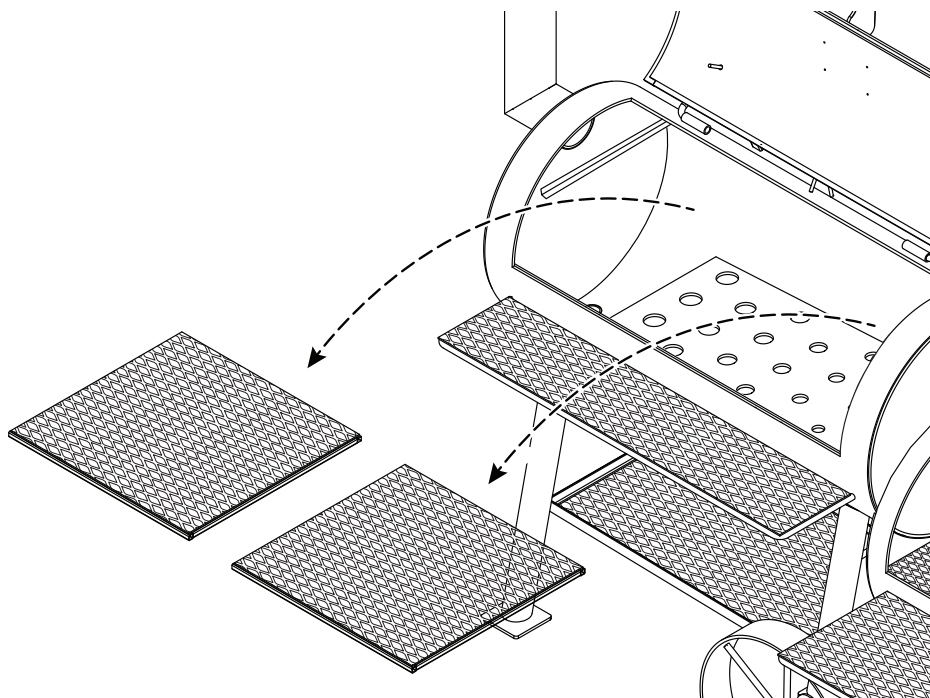

FIG 1
5. Install cooking grates and optional second shelf See **FIG 1**.